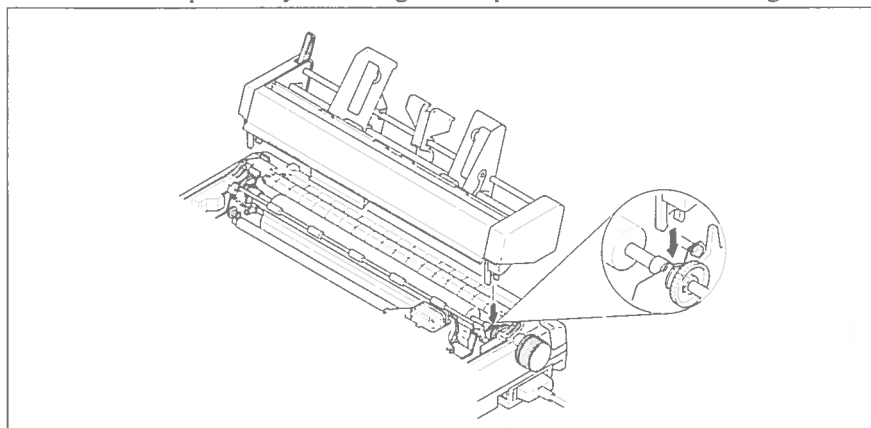

Figure 7-3. Mount the Automatic Sheet Feeder onto the printer.
5. Secure the mounting brackets of the Automatic Sheet Feeder onto the shaft of the platen by lowering it into position as shown in Figure 7-3.